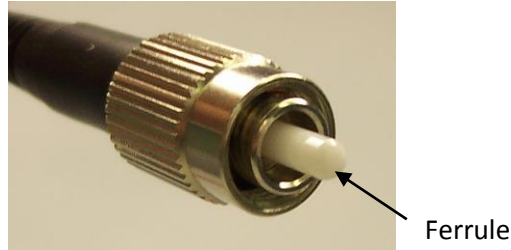

Figure 15: Connector (Connector Type May Vary)
2. Loosen the retaining screws of the connector panel, and remove the panel carefully to access the internal connectors (Figure 15).